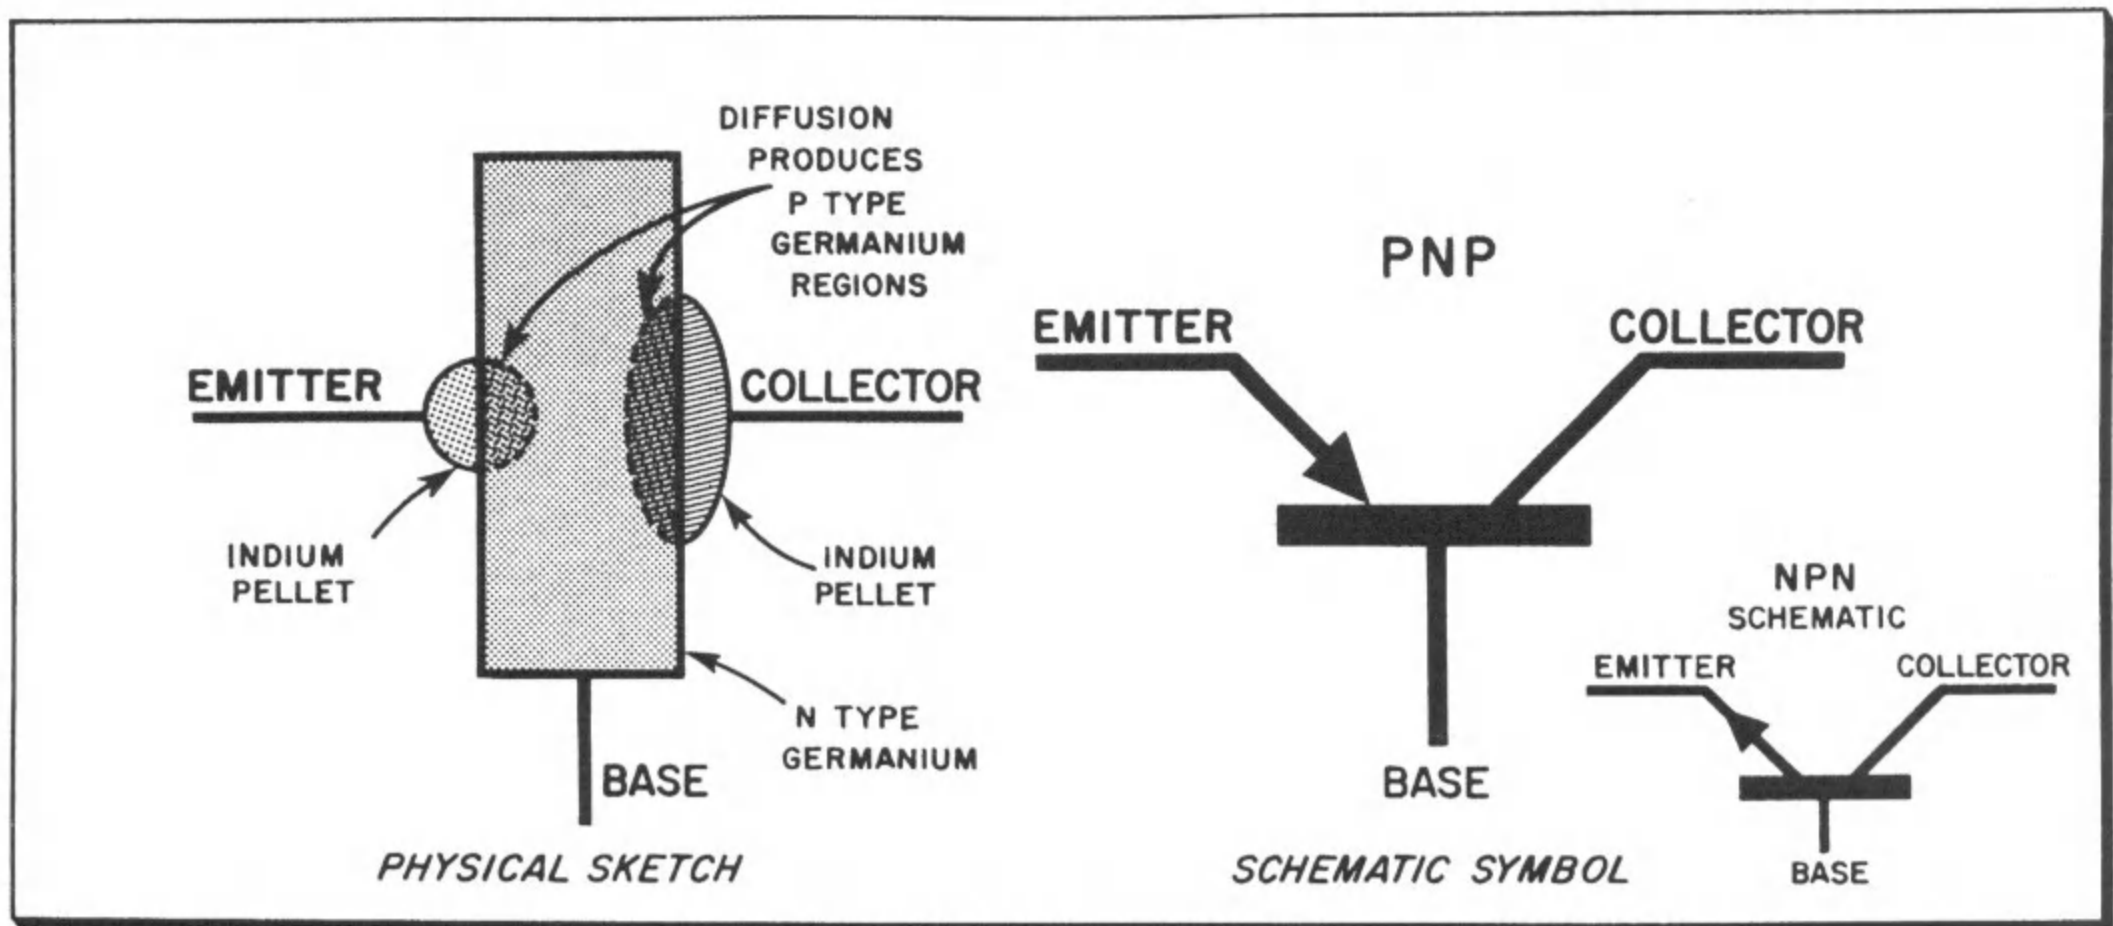
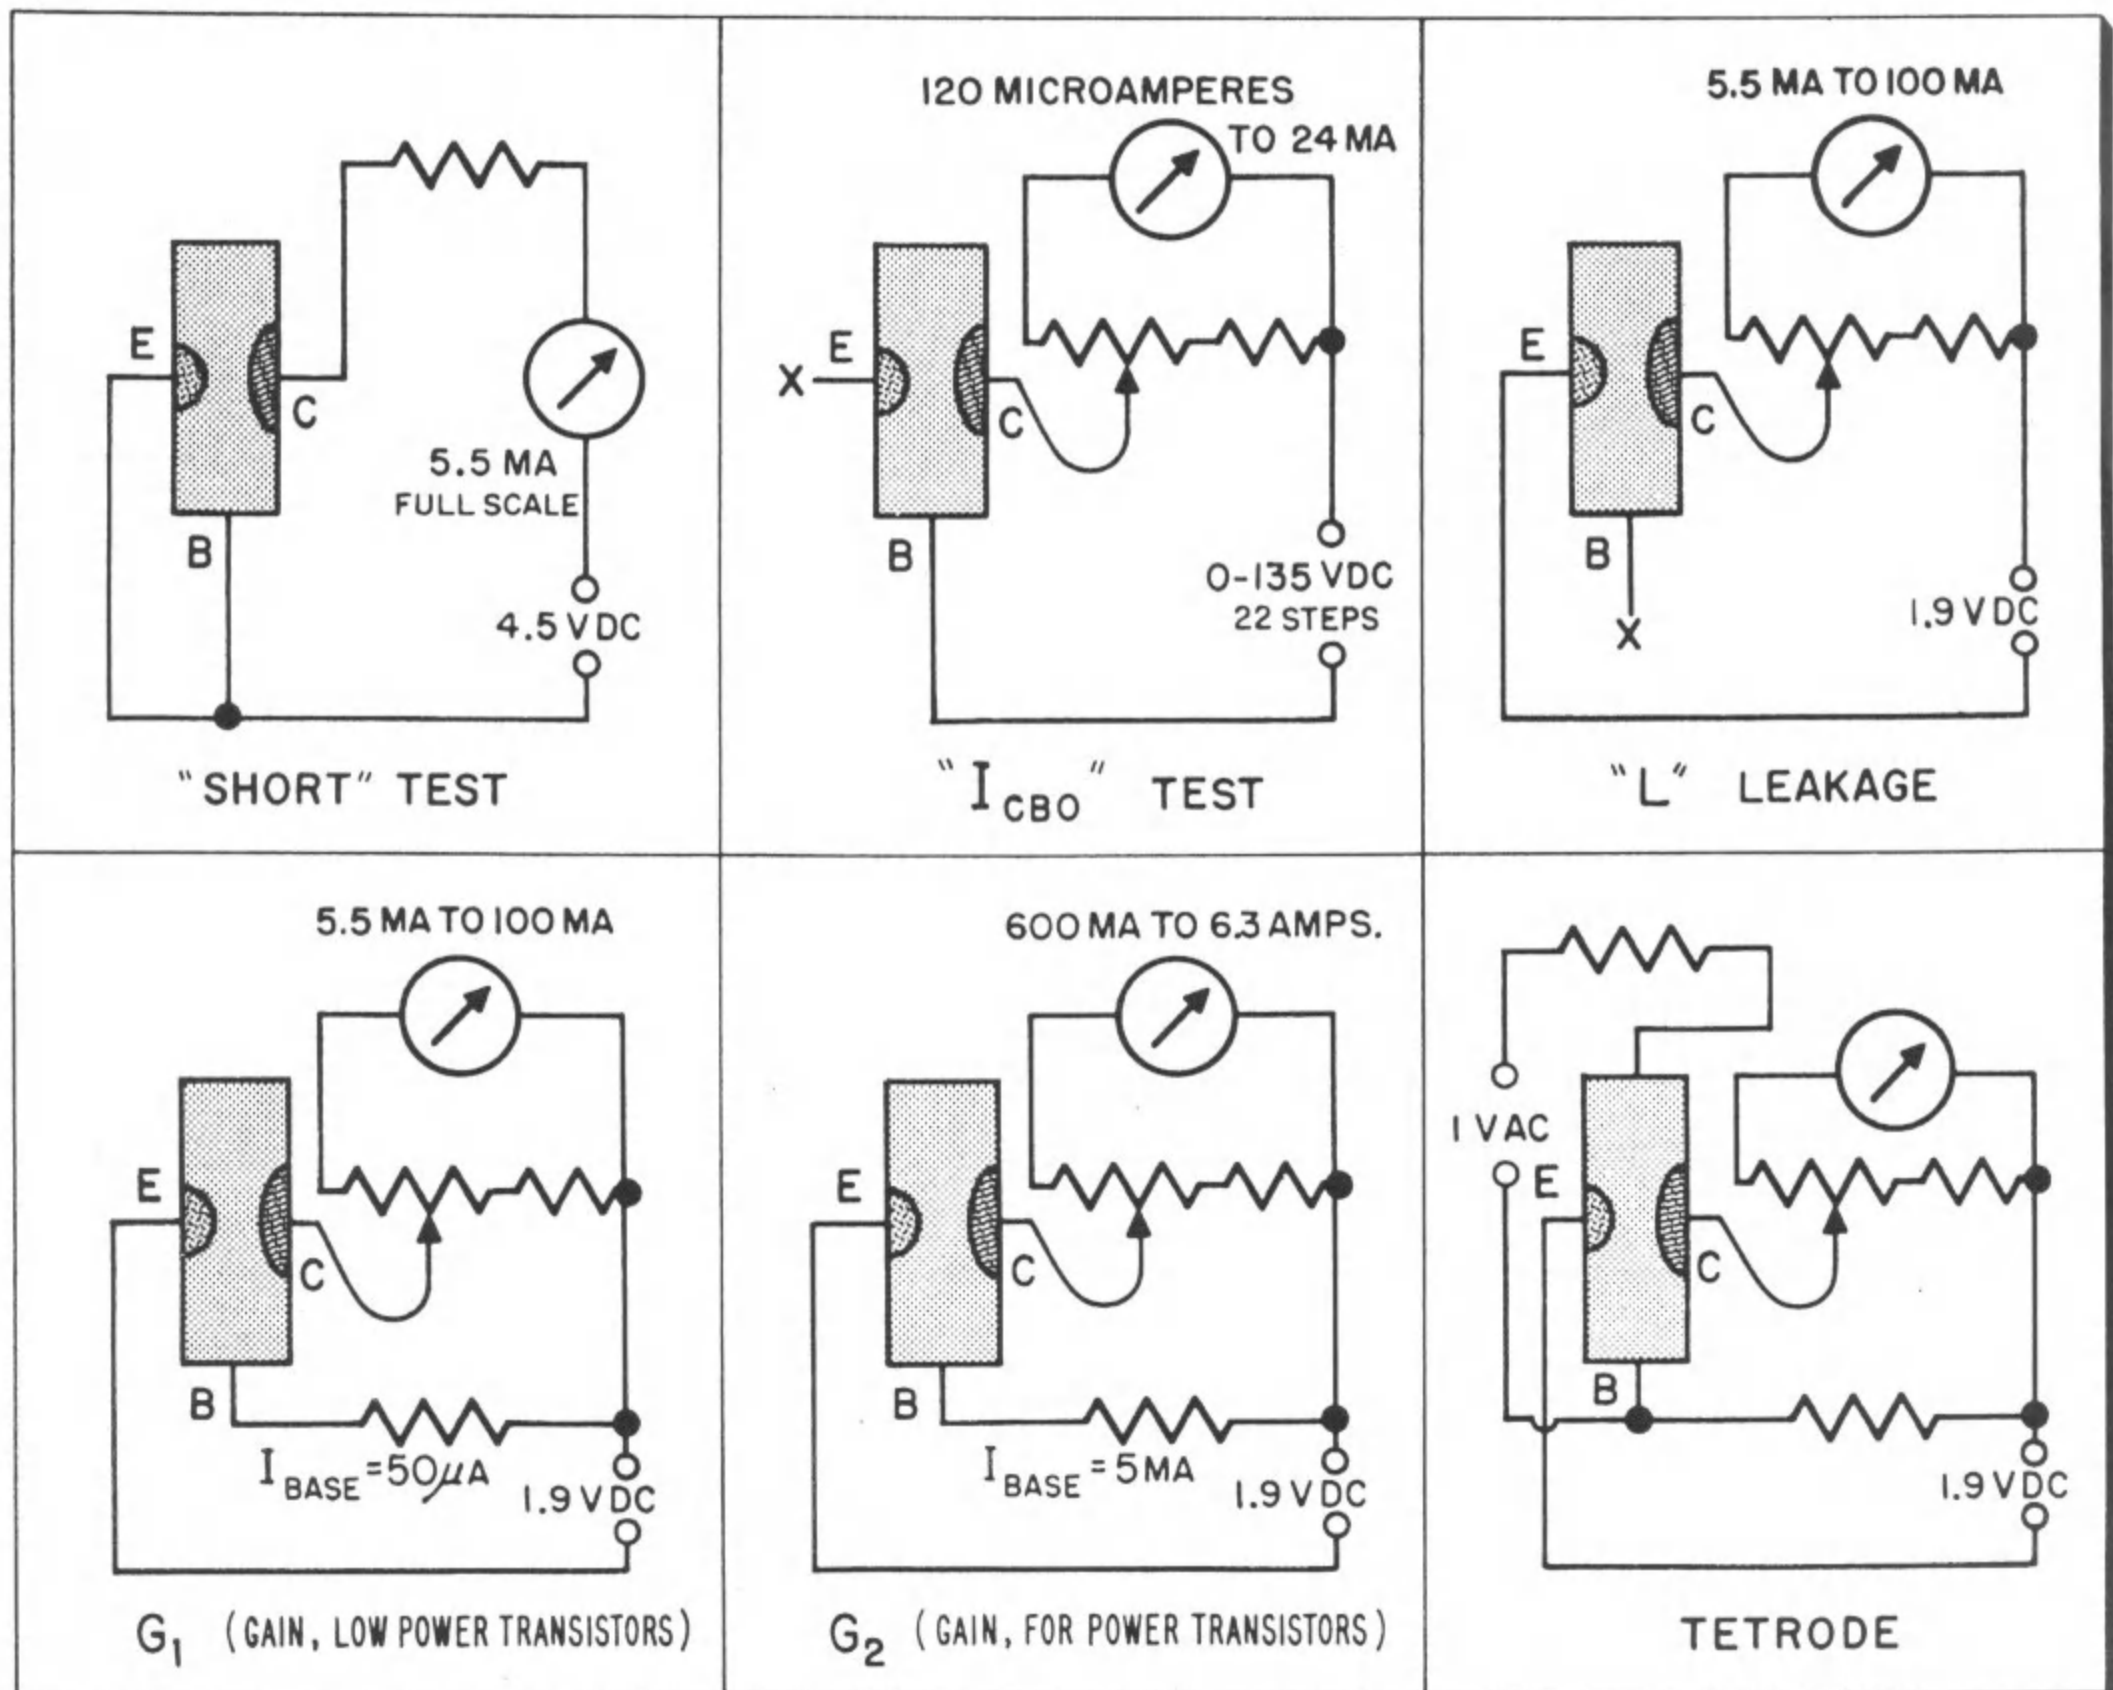

FIG. 1 DIFFUSED JUNCTION PNP TRANSISTOR
FIG. 2
1. Icbo - This symbol indicates the current flowing between the Collector and Base with the Emitter open. See Fig. 2, second illustration. It will be noticed therefore that the first two symbols after the "I" indicate the circuit in which the current is to be measured: the symbol missing in this particular example is the "E" (Emitter). The "O" at the end of the symbol indicates that the missing symbol ("E" in this case) is open-circuited for this particular type of test. In other words, if we had a case where the test required a measurement of current flowing between the Emitter and the Base, with the Collector open, the symbol would read "Iebo". In fact, "Iebo" is a characteristic used by the transistor manufacturer for some types of tests. (See pages 27 and 28).
The schematic representation of a transistor is illustrated in Figure 1, Page 9. Figure 1 shows the relationship between the schematic representation and actual physical structure of the transistor. The two indium pellets which constitute the Emitter and Collector terminations of the transistor are spaced quite closely to each other and create diffused regions, separated only by an extremely thin wall of crystal material. It becomes obvious therefore that shorts may occur between Emitter and Collector: the "short" position of the transistor test facilities of the Model 10-60 is therefore the first important test. See Fig. 2, "Short Test". A shorted or low resistance transistor should be rejected without further testing.
As noted previously, Icbo (Collector Cut-off Current), which is measured per Fig.2, second illustration, is the basic transistor test parameter, and is the second test performed on all transistors by the 10-60.
The third transistor test is designated as "L" or Leakage. The basic circuit for this leakage test is indicated in Fig. 2, third illustration, and provides a meter reading which is essentially the Icbo of the transistor multiplied by the Beta (Gain). Test position "L" on the "TRANSISTOR TEST" Switch sets up instrument for this Leakage test. This Leakage test in itself is of no special significance insofar as the condition of the transistor is concerned. IT MERELY SERVES AS AN INITIAL READING TO BE SUBTRACTED FROM THE NEXT TEST WHICH IS DESIGNATED ON THE PANEL AS "G₁" FOR "GAIN". SEE FIG. 2, FOURTH ILLUSTRATION.